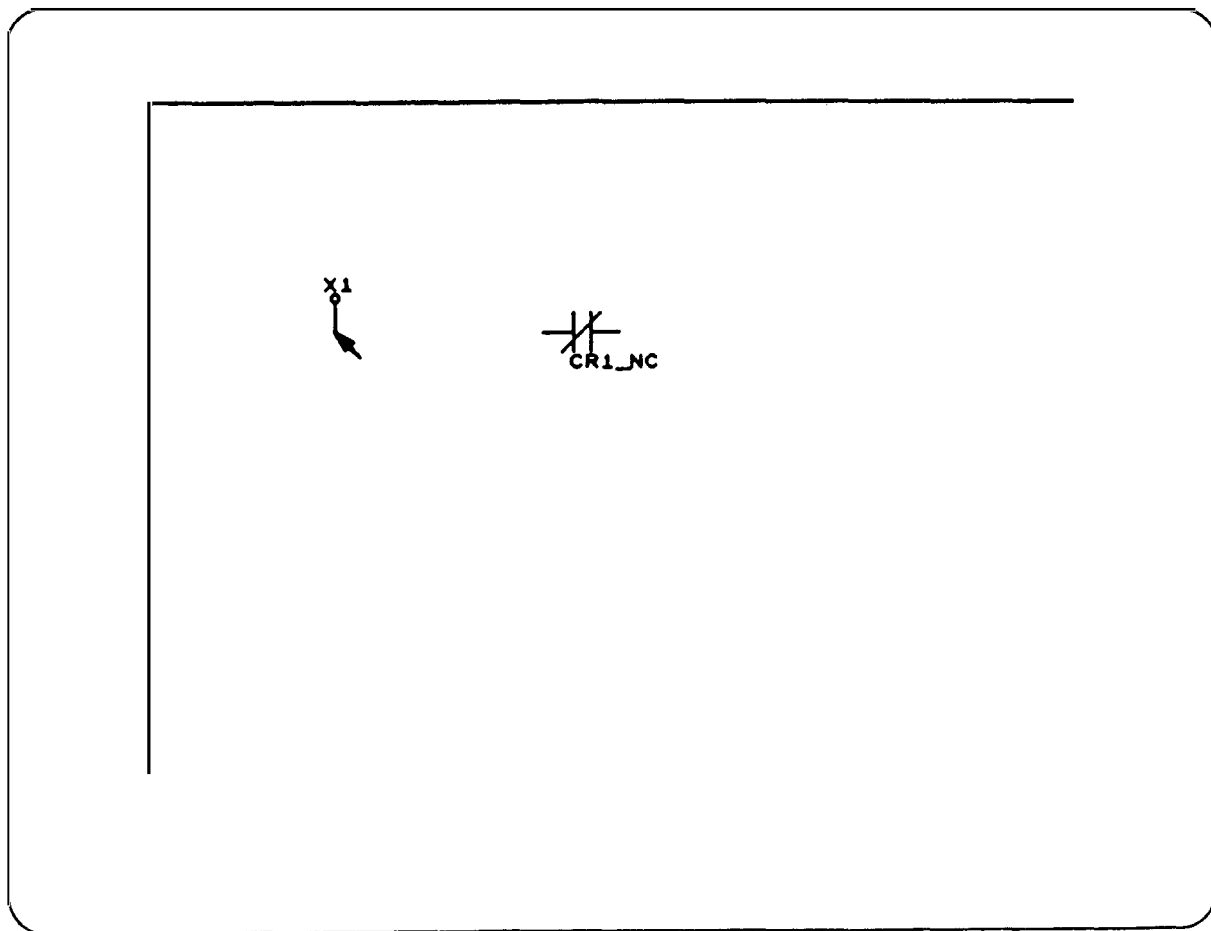

Figure 4-6.
22. Position mouse arrow as in Figure 4-6.